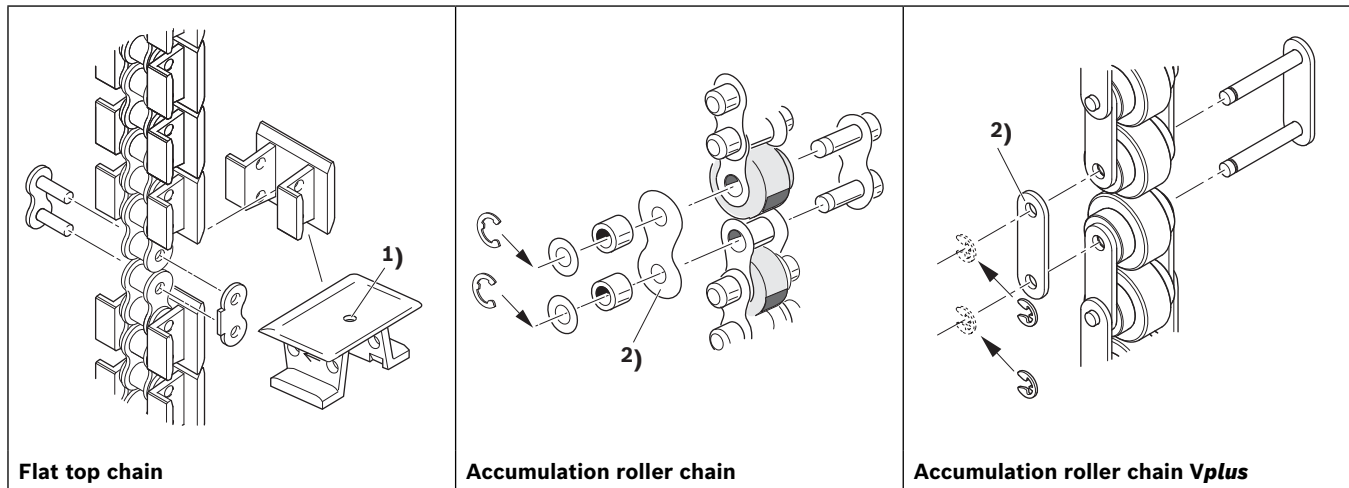

Fig. 28: Chain lock
- Unlock the chain tensioner by lifting the "latch" (☞ Fig. 28). Pull the chain tensioner up and fix it in its end position with a pin or screwdriver.